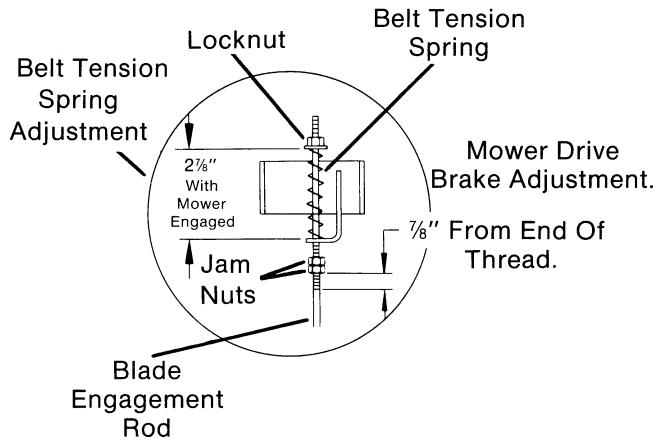

FIG. 17
E. Turn jam nuts until the dimension shown in (Fig. 17) is achieved or until 7 second blade safe stopping time is met. (A test of the rider will have to be made with a stop watch with engine running at full speed and mower deck engaged to test stopping time).
- d. Check belt tension spring adjustment as shown in (Fig. 17).